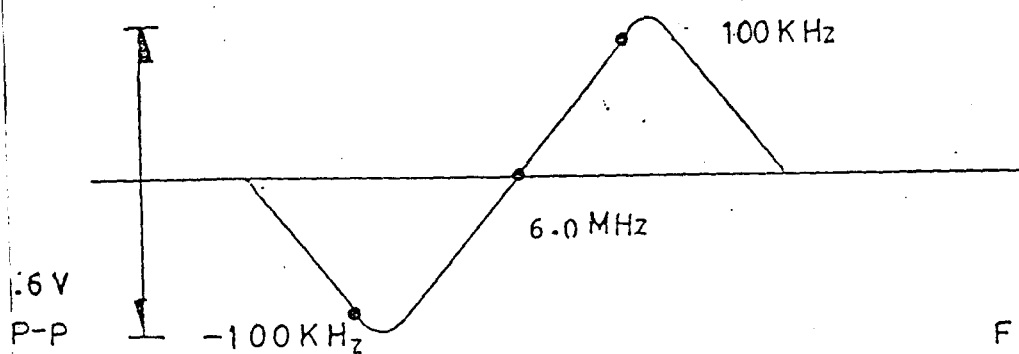

Fig.5
- (iv) Adjust T102 to obtain the waveform as Fig.5.